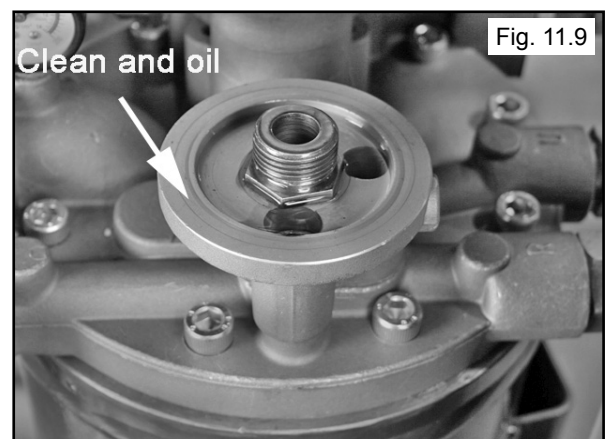

Fig. 11.9
3. Clean the threads and seat and then apply a light layer of clean oil to the face of the Oil Filter seat. (See Fig. 11.9)